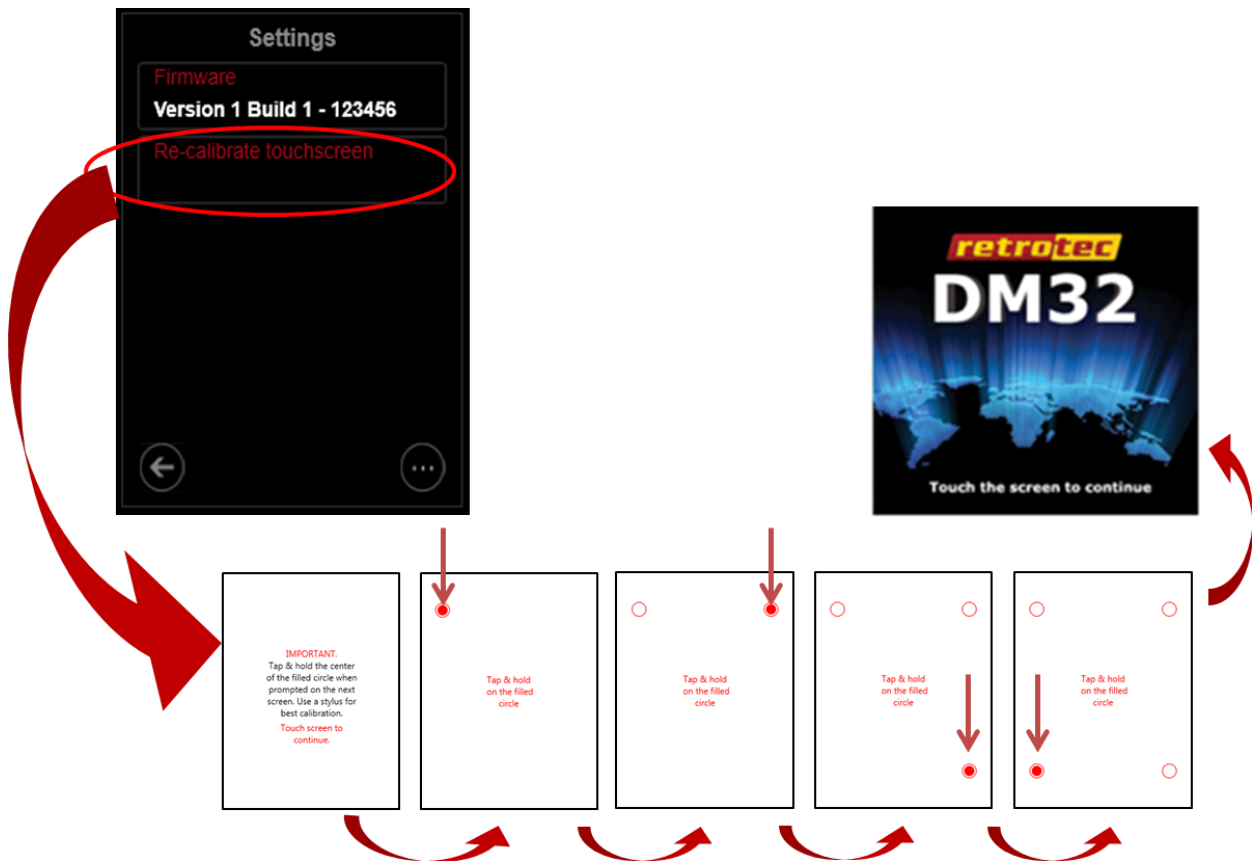

Figure 51: Tap each red dot as they are presented, to re-calibrate touchscreen
If the touchscreen does not seem to be responding properly to the user touch, the screen calibration may need to be adjusted. The **[Re-calibrate touchscreen]** key allows the user to establish new points for touchscreen response coordinates, as shown in Figure 51.
3. Once the gauge is reset, the re-calibrate touchscreen process will start, the same procedure as that shown in Figure 51.